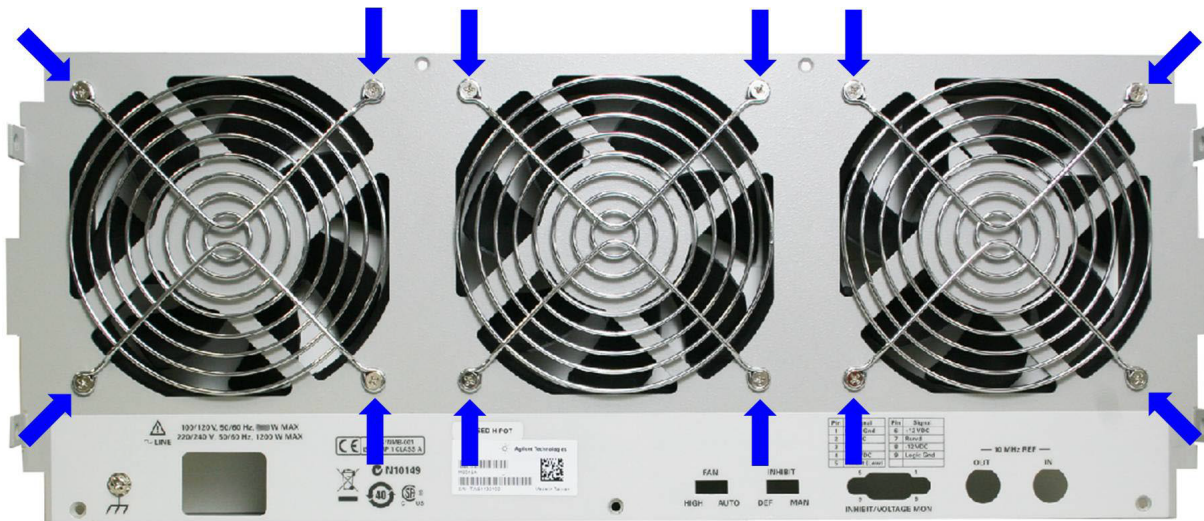

Figure 84 Remove these screws to detach the fan assembly
- 1 Lay the rear panel on a flat surface with the rear panel shown in Figure 84 facing up.
- 2 The fans are attached by screws that mount through the eyelets of the fan guards. Remove the 12 screws highlighted in Figure 84 (note, some early M9018A chassis used #2 Phillips screws, all later chassis used T8 Torx screws). As you do this, note the orientation of the fan guards. The fan guards are mounted with their eyelets flush with the rear panel. Note also the position of the fan wiring harness—it is attached to the fan assembly proximate to the lower right corner of the rear panel.
- 3 After removing the 12 screws, lift the rear panel off of the old fan assembly. Lay your new fan assembly on your work surface in the same orientation as your old fan assembly, relative both to the sides of the fans that are facing up and the location of the fan wiring harness. For a rear panel positioned as shown in Figure 84 on page 164, the fan assembly will be laid out as shown in Figure 85.